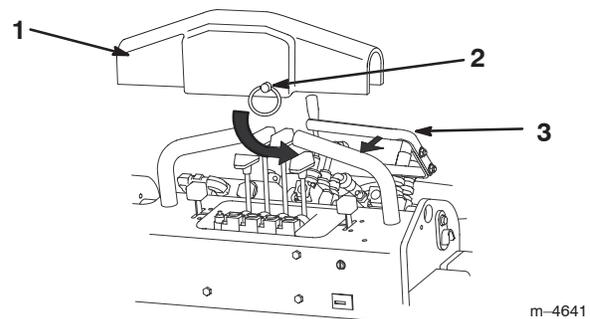

Figure 13
- Pull the auxiliary hydraulics lever to the operator grip and install the hydraulics lever clamp by pushing it over the hand grip and sliding it right so that the pin through the clamp slides under the right hand grip (Fig. 13).
5. Remove the hydraulics lever clamp (Fig. 13 or 14).